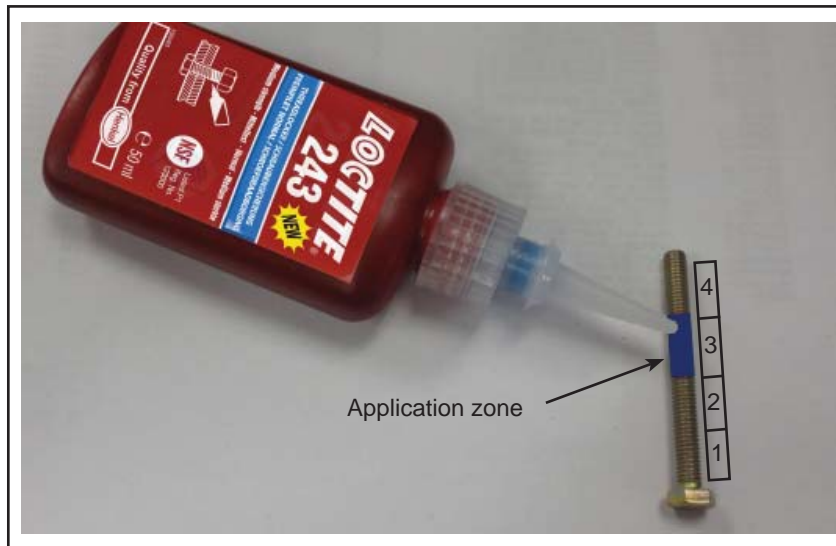

Figure 3 - Applying the Thread locker
- 1.3. Apply thread locker, Loctite 243 or equivalent, on the third quarter of the length of the bolt starting from the head. See Figure 3.